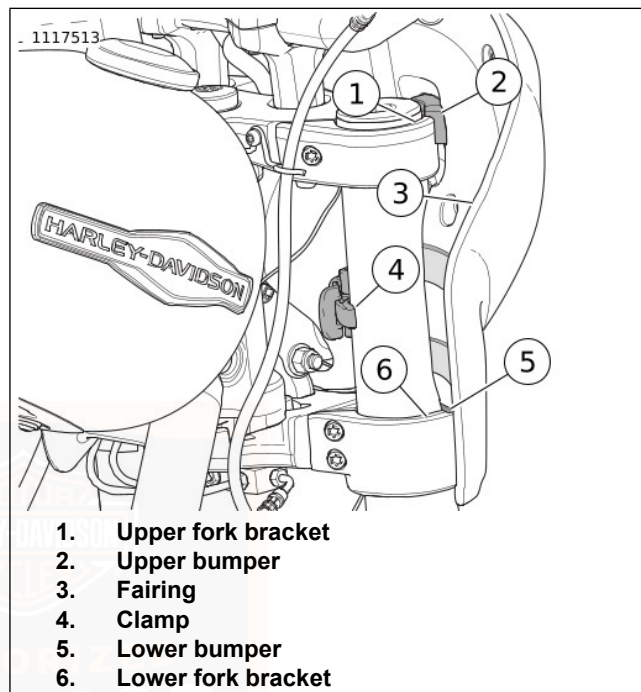

Figure 53. Fairing Installed
1. See Figure 53. Remove fairing.
- Open clamps (4).
- Straddle fender. Lift fairing (3) up over headlamp.
- b. Open clamps (4).
- c. Straddle front fender. Place fairing over headlamp and onto front forks (5).
- d. See Figure 53. Position upper bumper (2) on upper fork bracket (1).
- e. Verify lower bumper (5) is seated on lower fork bracket (6).